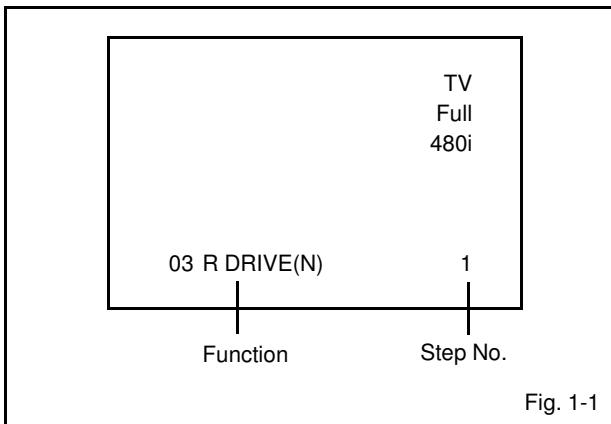

Fig. 1-1
2. Press the VOL. DOWN button on the set and the channel button (9) on the remote control for more than 2 seconds to display adjustment mode on the screen as shown in **Fig. 1-1**.
5. Activate the adjustment mode display of **Fig. 1-1** and press the channel button (03) on the remote control to select "R DRIVE (N)".
6. Press the UP/DOWN button on the remote control to select the "R CUTOFF (N)", "B DRIVE (N)", "B CUTOFF (N)", "R DRIVE (C)", "R CUTOFF (C)", "B DRIVE (C)", "B CUTOFF (C)", "R DRIVE (W)", "R CUTOFF (W)", "B DRIVE (W)" or "B CUTOFF (W)".
7. Adjust the LEFT/RIGHT button on the remote control to whiten the R DRIVE (N), R CUTOFF (N), B DRIVE (N), B CUTOFF (N), R DRIVE (C), R CUTOFF (C), B DRIVE (C), B CUTOFF (C), R DRIVE (W), R CUTOFF (W), B DRIVE (W) and B CUTOFF (W) at each step tone sections equally.
4. Activate the adjustment mode display of **Fig. 1-1** and press the channel button (32) on the remote control to select "BRIGHTNESS CENT".
10. Activate the adjustment mode display of **Fig. 1-1** and press the channel button (32) on the remote control to select "BRIGHTNESS CENT".
16. Activate the adjustment mode display of **Fig. 1-1** and press the channel button (32) on the remote control to select "BRIGHTNESS CENT".
22. Activate the adjustment mode display of **Fig. 1-1** and press the channel button (32) on the remote control to select "BRIGHTNESS CENT".
27. Activate the adjustment mode display of **Fig. 1-1** and press the channel button (32) on the remote control to select "BRIGHTNESS CENT".
4. Activate the adjustment mode display of **Fig. 1-1** and press the channel button (51) on the remote control to select "CONTRAST MAX".
10. Activate the adjustment mode display of **Fig. 1-1** and press the channel button (51) on the remote control to select "CONTRAST MAX".
16. Activate the adjustment mode display of **Fig. 1-1** and press the channel button (51) on the remote control to select "CONTRAST MAX".
22. Activate the adjustment mode display of **Fig. 1-1** and press the channel button (51) on the remote control to select "CONTRAST MAX".